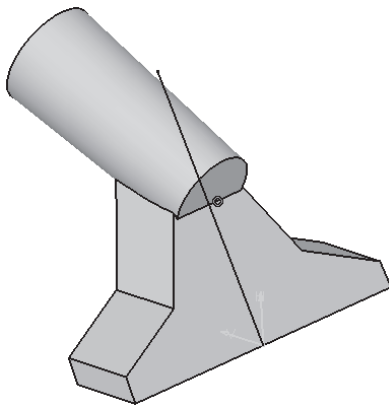

Figure 6-79 Sketch for the **Pocket** feature
- Create the third feature of the model, which is a cut feature. It will be used to remove the unwanted portion of the second feature, refer to Figures 6-79 and 6-80.
9. Select the zx plane and invoke the **Sketcher** workbench. Draw the open sketch, as shown in Figure 6-79, and exit the **Sketcher** workbench.